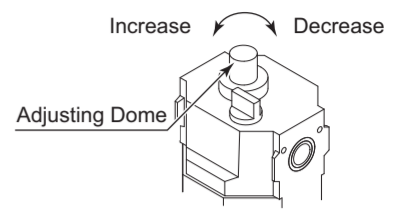

Fig. 22
- Adjustment of Oil Drip Rate (Fig. 22)